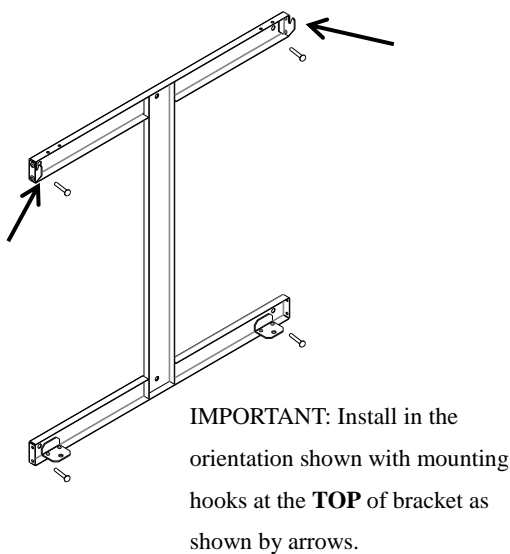

Fig. 5
- Insert ST5x40 screws to secure the bracket to wall (Fig. 5)